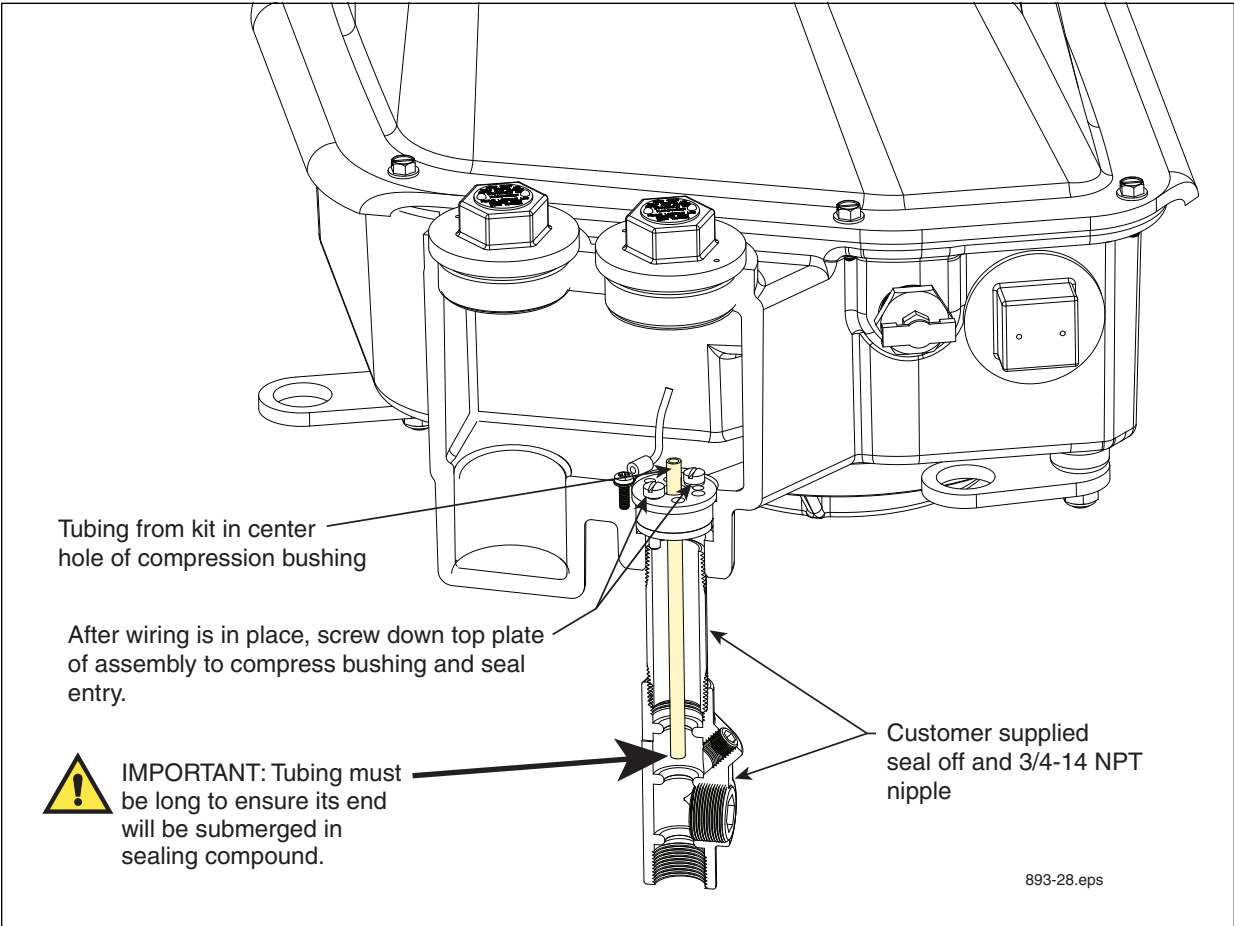
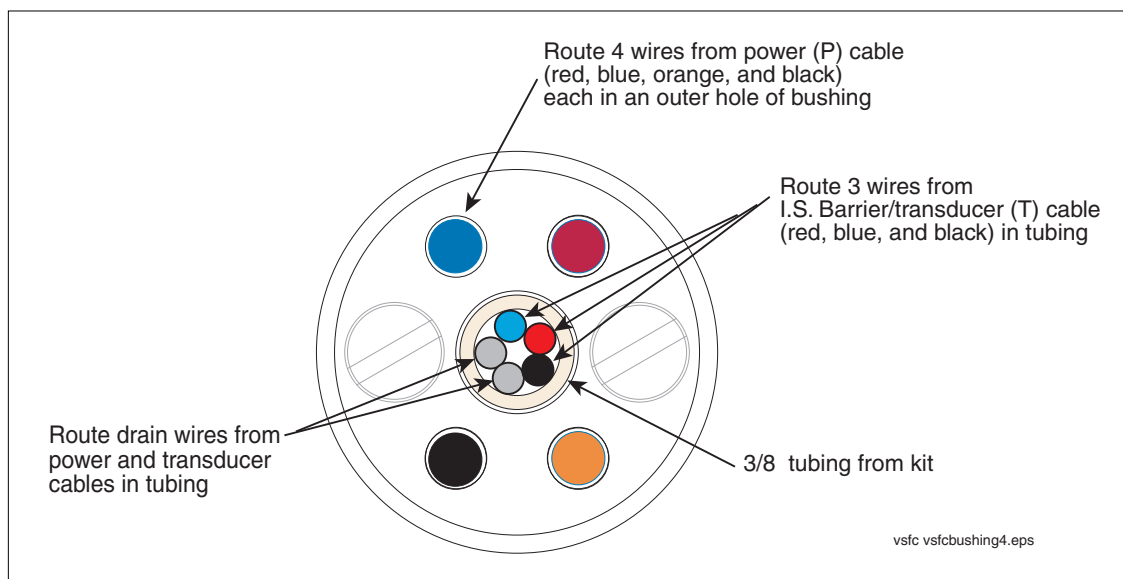

Figure 24. Tubing from Kit Installed in Compression Bushing
Figure 26. Recommended Power Wire/I.S. Barrier (Transducer) Wire Entry Through the Compression Bushing
3. The compression bushing is used to water seal the wiring entry port of the VSFC CSTP. Figure 24 through Figure 26 illustrate the recommended installation of the bushing in the VSFC CSTPs with and without an I.S. Barrier.